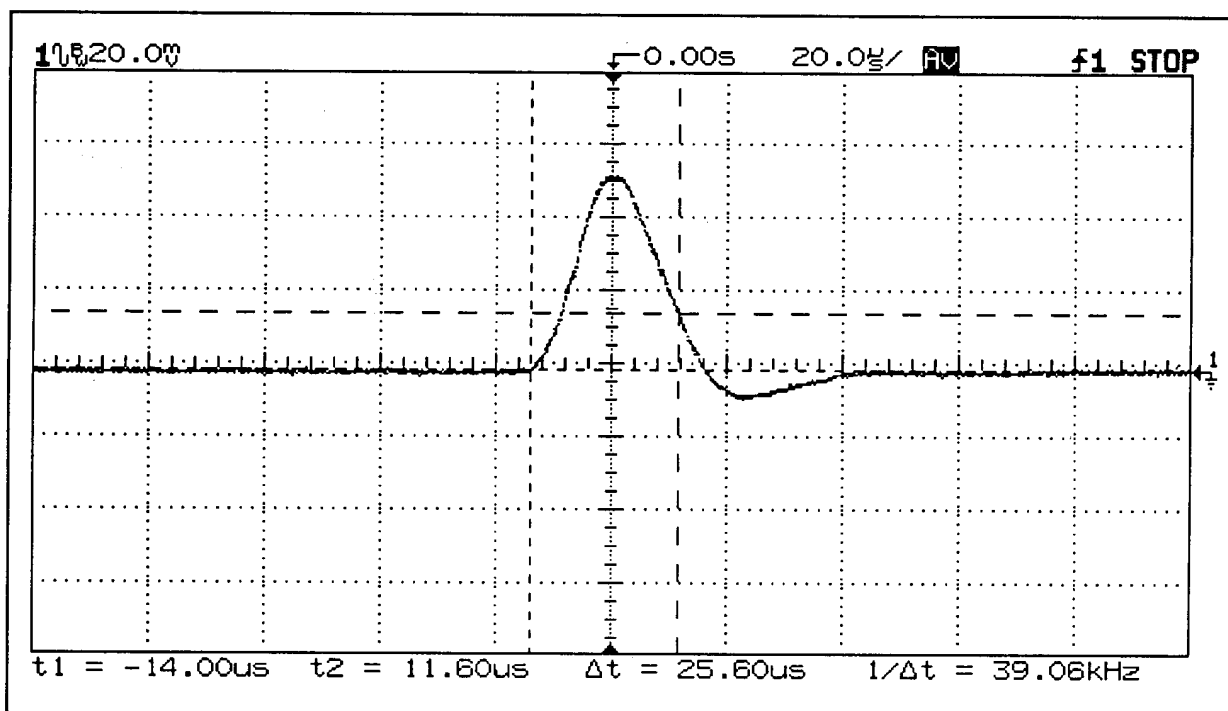

Figure A-5. Load Transient Response Time Waveform
- Adjust the oscilloscope to display transients as in Figure A-5.